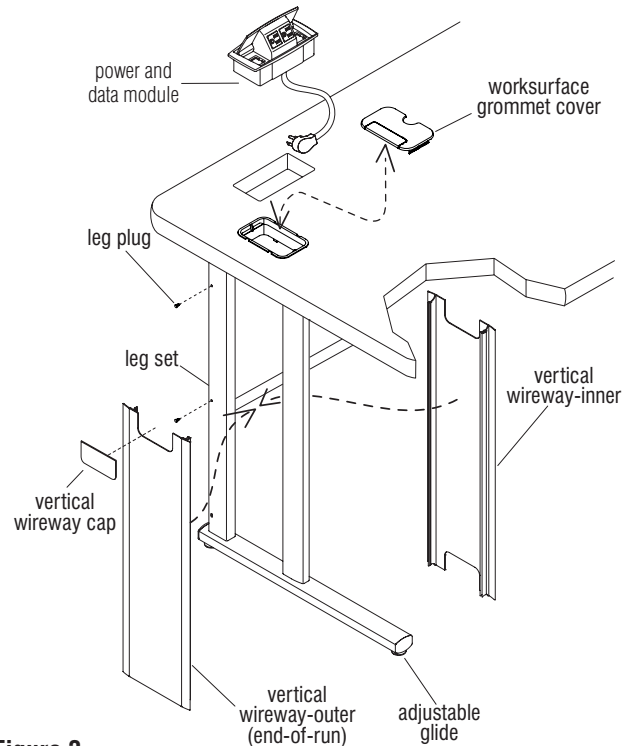

Figure 3
8. Stand worksurface assembly right side up and install two leg plugs into the exposed holes at the outside of each leg set as illustrated (Figure 3).
9. Vertical wireways fasten into each other from each side of the leg set opening and must be oriented correctly to press together. Begin by positioning an "outer vertical wireway" (one cut-out), to the outside of the leg set as illustrated with the cut-out facing the worksurface. Next position the inner wireway cover (two cut-outs) in the correct orientation at the inside of the leg set and press it into the outer. Press a vertical wireway cap into the upper, outside cut-out in each vertical wireway where no table-to-table wireway is installed (Figure 3).
11. Level worksurface by turning four adjustable glides either in or out. The jambnuts between the adjustable glides and the bottom of the leg sets must be tightened up against the bottom of the leg to secure the adjustable glides (Figure 3). Tighten screws that gang worksurfaces at this time.
12. Press worksurface grommets into wireway holes in worksurface top (Figure 3). Route the power and data module cord through the power and data module hole in the worksurface. Snap the power and data module into the module hole (Figure 3). From under the worksurface, with the power/data door opened, plug the power cord into the duplex receptacle on the 10-wire harness. Check for proper operation of the power and data module. To open module push down on the module and it will pop-up. To close, press downward and it will snap closed.